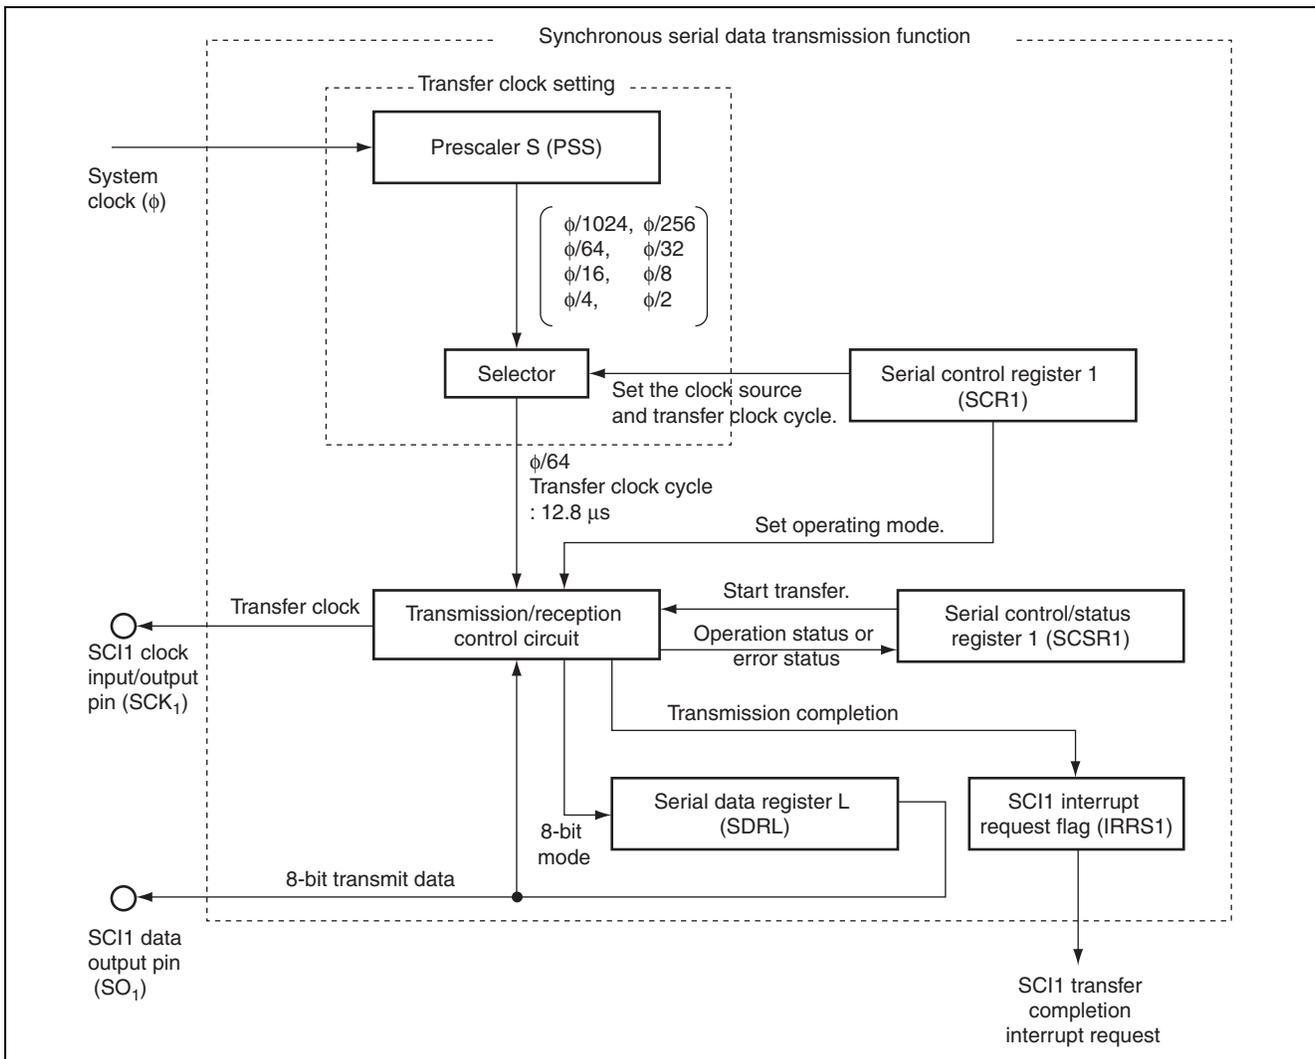

Figure 2.1 Block Diagram of Synchronous Serial Data Transmission Function
1. In this sample task, serial data is transmitted in synchronous mode via the serial communication interface (SCI). Figure 2.1 shows a block diagram of serial data transmission in synchronous mode, and the following is the description for the block diagram: